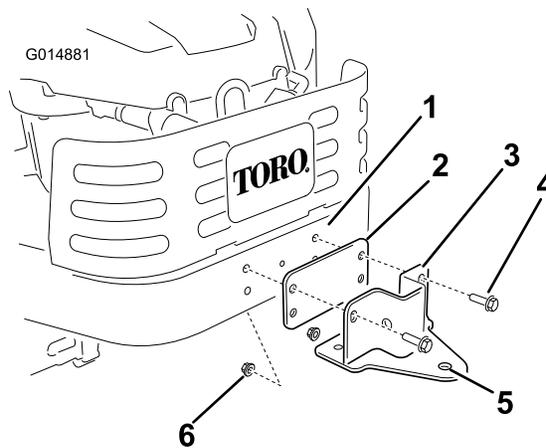

Figure 10
- Locate the bagger frame support spacer plate and bracket in loose parts. Install the plate and bracket to the machine frame as shown in Figure 10. Secure the plate and bracket to the frame using two bolts (5/16 x 1 inch) and two lock nuts (5/16 inch).